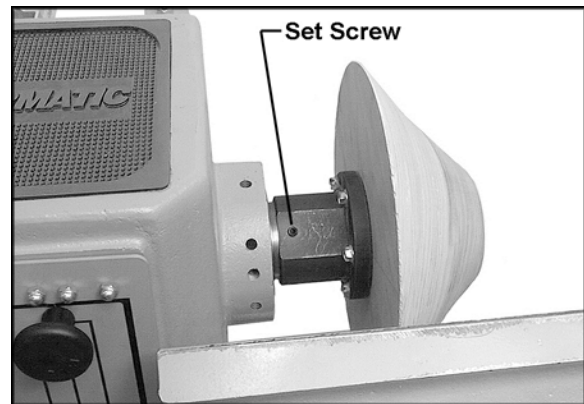

Figure 21
WARNING If at any time you will be *reversing* spindle rotation, make sure the two set screws in the face plate are tight! One of these is shown in Figure 21. Failure to do this may cause the face plate to loosen from the headstock spindle.
5. To *remove* the face plate, loosen the two socket set screws (Figure 21). Engage the spindle lock button and turn the face plate counterclockwise with the face plate wrench, as shown in Figure 21.
WARNING When turning with a face plate, make sure both set screws on the face plate are tight (see Figure 21) before reversing the spindle. Failure to comply may cause the face plate to spin loose from the spindle.